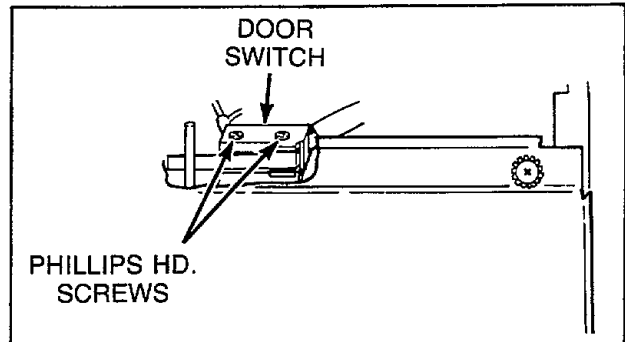

Figure 14
10. **DOOR SWITCH (Refer to Figure 14)**